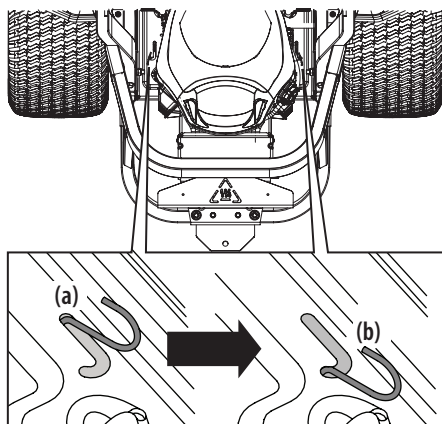

Figure 1
1. To engage the transmission bypass rods, pull the rod back (a) and into lower section of "J" slot. Repeat on opposite side. See Figure 1.